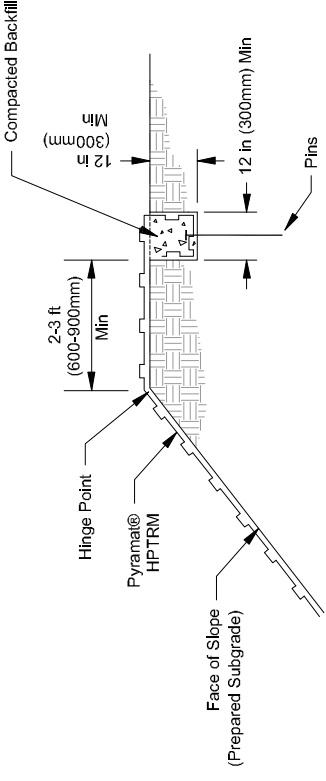

FIGURE 2: INITIAL TRENCH AT TOP OF SLOPE DETAIL
- Excavate initial trench 12 in wide x 12 in deep (300 mm x 300 mm) minimum along both crest of slope (see Figure 2).
- Beginning at the downstream end of prevailing winds, place roll end into the initial trench and secure with pinning devices on 12 in (300 mm) centers (see Figure 2). Position adjacent rolls and secure in trench in same manner. Backfill and compact soil into trench as directed and approved by Engineer.